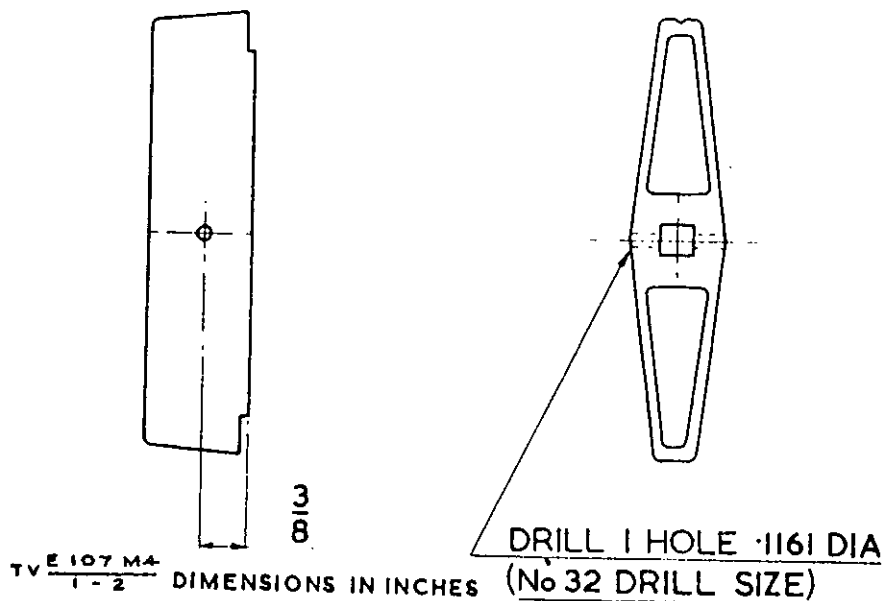

Fig 2 - Control knob, hole drilled
- d. See Fig 2: Drill hole through control knob at dimensions shown.